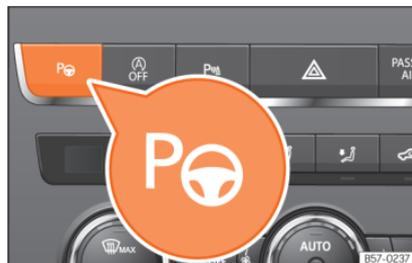

Fig. 196 In the upper part of the centre console: button to switch on the Park Assist system.
The components of the Park Assist system are the ultrasonic sensors located in the front and rear bumpers, the **Pa**  **Fig. 196** to switch the system on and off and the messages on the instrument cluster display.
After activating the Park Assist system and after detecting a parking space, the display on the instrument panel proposes a parking mode. The Park Assist system selects the parking mode automatically. The selected mode is shown on the instrument panel display » **Fig. 197**. The reduced display of other possible parking modes is also shown » **Fig. 198**. If the mode selected by the system does not correspond to the desired mode, you can select another mode by pressing the **P** button » **Fig. 196**.
- Press the **P** button »» Fig. 196. A control lamp on the **P** button lights up when the system is switched on.